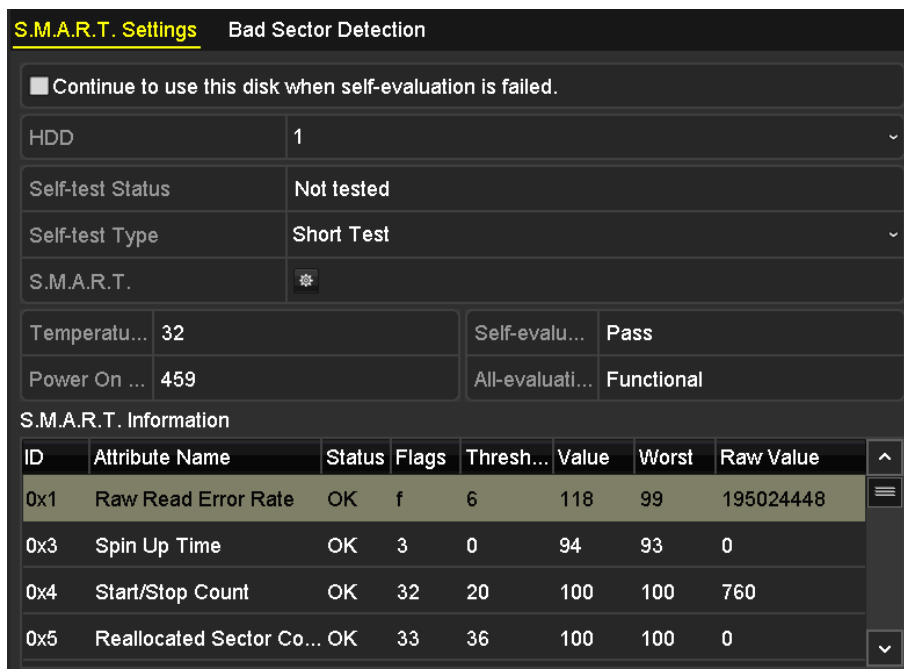

Figure 12-10 S.M.A.R.T. Settings Interface
Step 2 Select the HDD to view its S.M.A.R.T. information list, as shown in Figure 12-10.